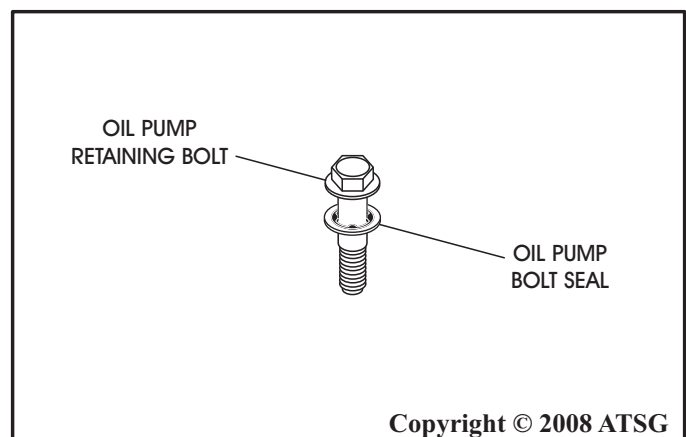

Figure 44
22. Remove and discard the oil pump retaining bolt seals, as they come in the Trans-Tec kit. Refer to Figure 44.